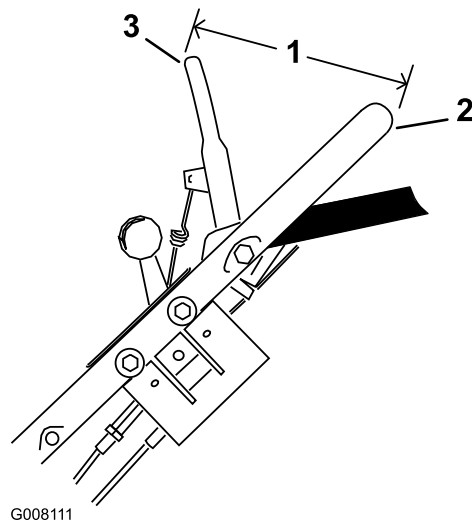

Figure 28
6. Hold the blade control bar so that the **outside** of the bar is 5-1/2 inches (14 cm) from the **outside** of the handle, and pull the cable to remove the slack, but do not put tension on the spring (Figure 28).